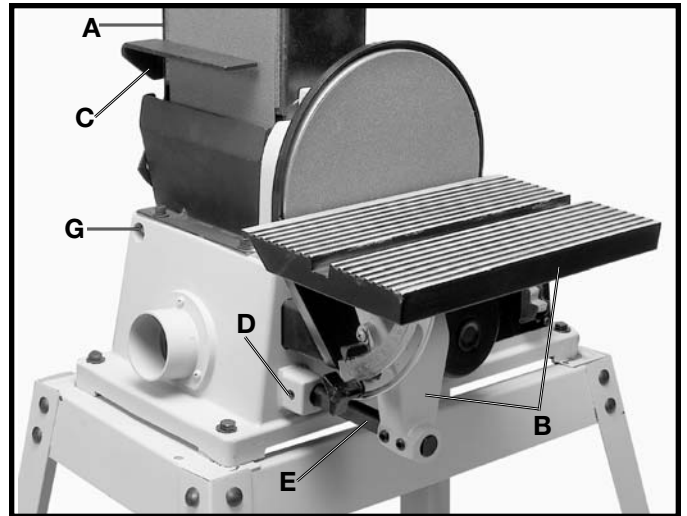
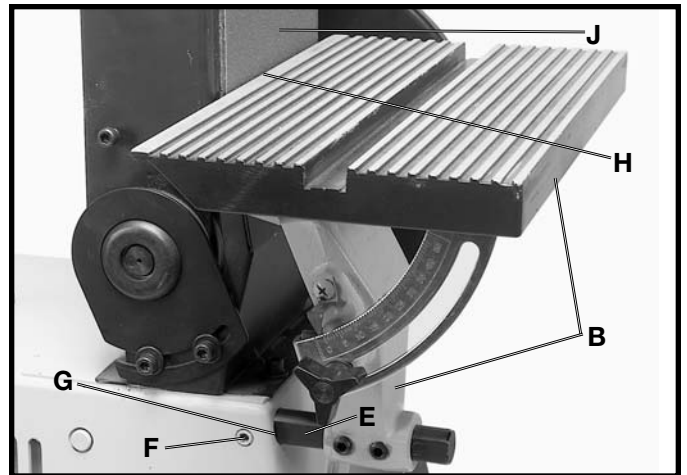

Fig. 33
Fig. 34
When the sanding arm (A) Fig. 33, is in the vertical position, the complete table assembly (B) can be moved from the disc unit to the belt unit as follows:
1. Remove backstop (C) Fig. 33, from the machine.
2. Loosen screw (D) Fig. 33, and carefully remove support bar (E) and table assembly (B) from the disc unit.
3. Loosen set screw (F) Fig. 34, and insert support bar (E) and table assembly (B) into hole (G) Figs. 33 & 34, on belt unit. Tighten set screw (F) to hold support bar and table assembly in position.
**⚠️ WARNING: THE TABLE EDGE (H) FIG. 34, MUST BE POSITIONED A MAXIMUM OF 1/16" AWAY FROM SANDING BELT (J) TO AVOID TRAPPING THE WORK OR FINGERS BETWEEN THE TABLE AND SANDING BELT.**